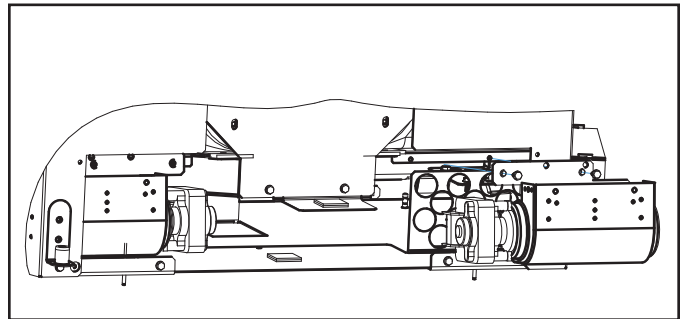
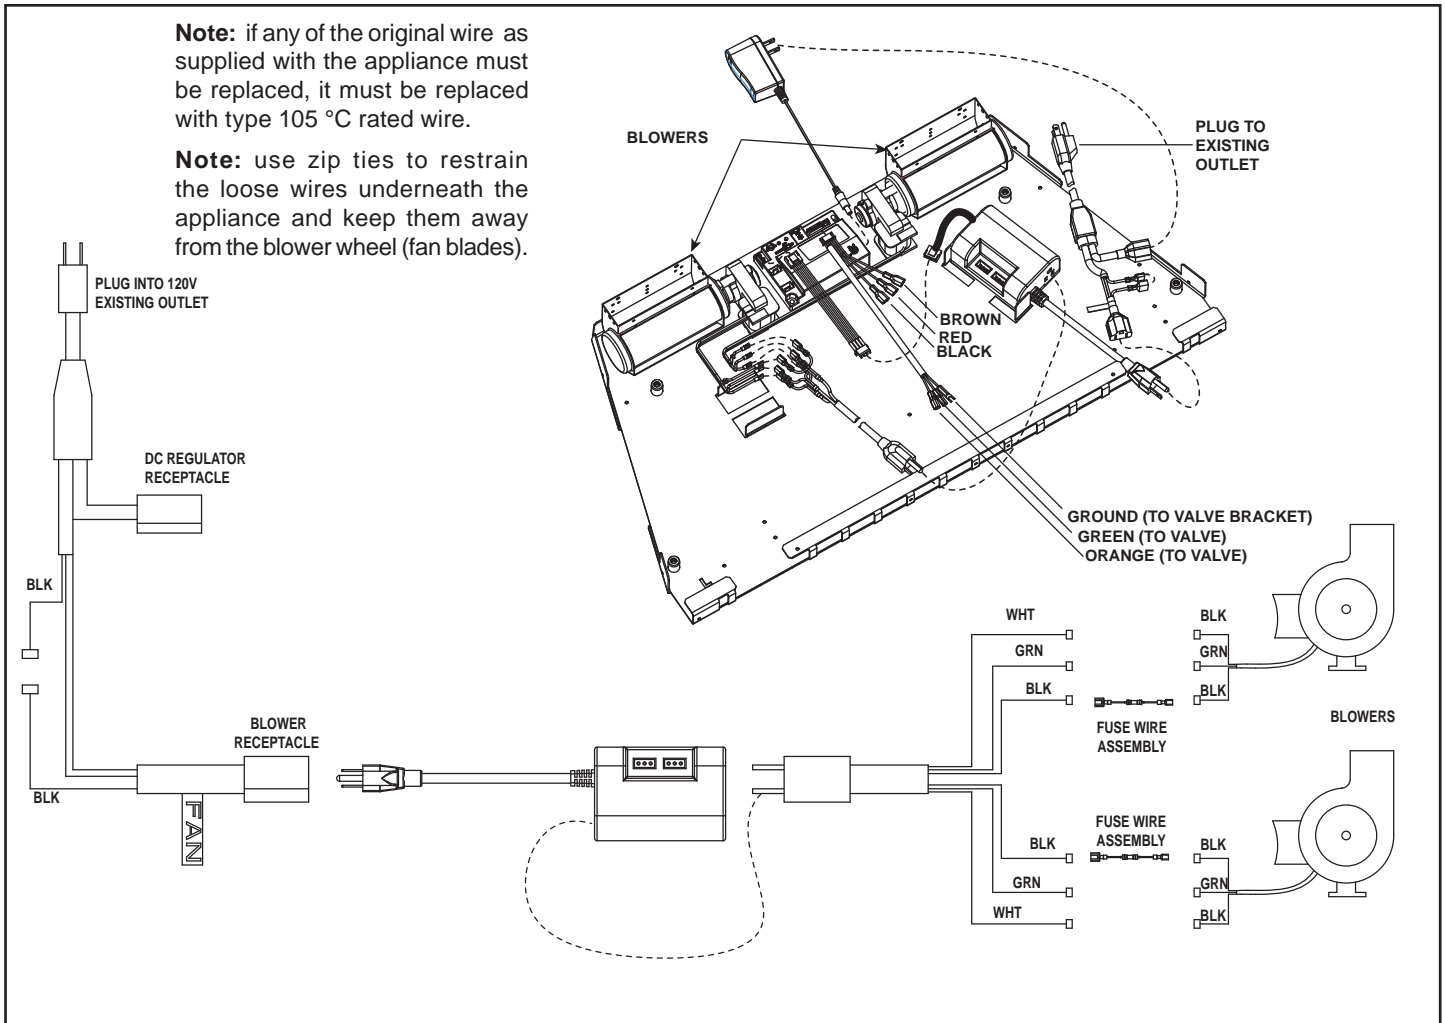

Figure 9. Attach Blower to Base
Figure 10. Fan Wiring Diagram - FireBrick Inserts
4. Attach blower to base with two screws. See Figure 9. Connect white and green wires from blower wire assembly to each blower. See Figure 9. Connect the fuse wire assembly in series between black wires of blower wire assembly and each blower. See Figure 10.
5. Insert plug from blower cable assembly into AUX300 receptacle. See Figure 10.